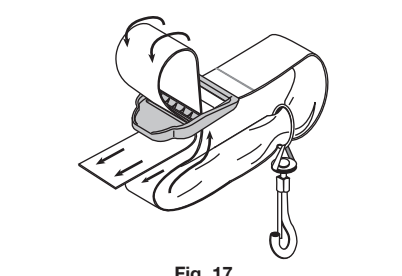

Fig. 17
2. Pull the strap over the cross bar and down through the slot in the buckle (Fig. 17).